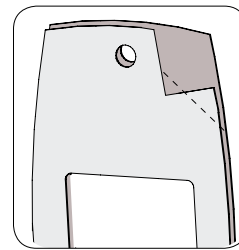

Fig. 8A
1. Carefully remove the backing from the gasket (Fig. 8A).